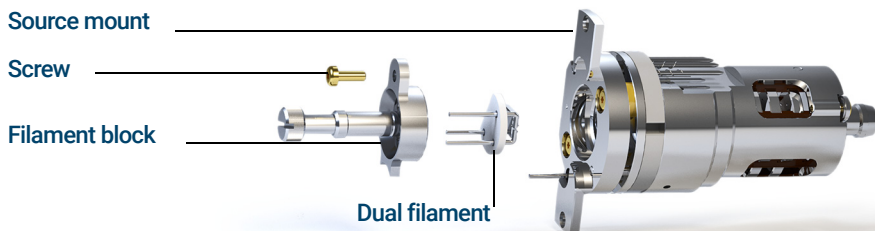

Figure 53 Replacing the dual filament
- 4 Remove the screw securing the filament block to the source mount. (See **Figure 53.**)
- 2 Insert the 3 pins on the dual filament through the rear of the filament block. (See **Figure 53** on page 165.)